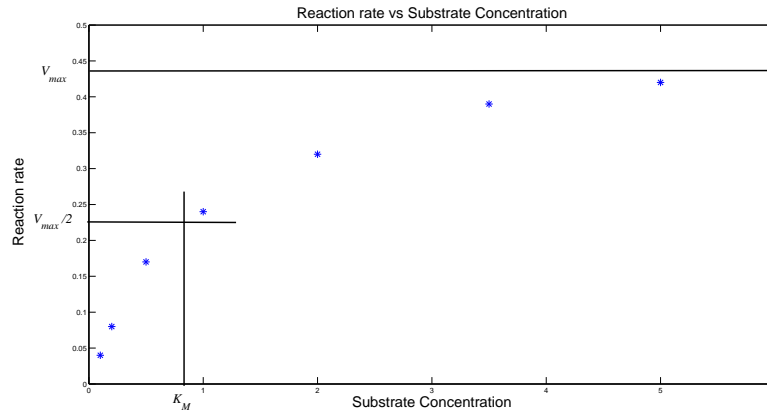

Figure 1.1 Graphical estimation of V_{max} and K_M
- a. The plot indicates that the relationship between the reaction rate and the substrate concentration goes to saturation in a M-M-like behavior, see Fig.1.1. V_{max} and K_m are estimated as shown in the plot.